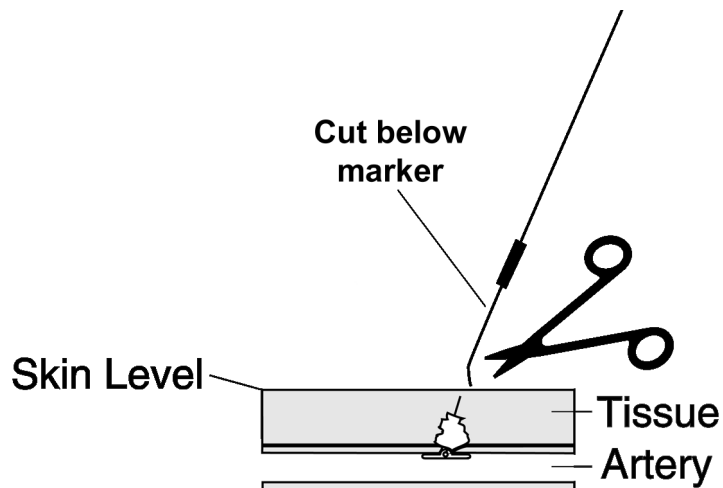

Fig. 19
6. Gently pull up on the suture. Push down on the skin using a sterile instrument. Cut the suture below the skin level, making sure to cut below the black compaction marker (Figure 19).